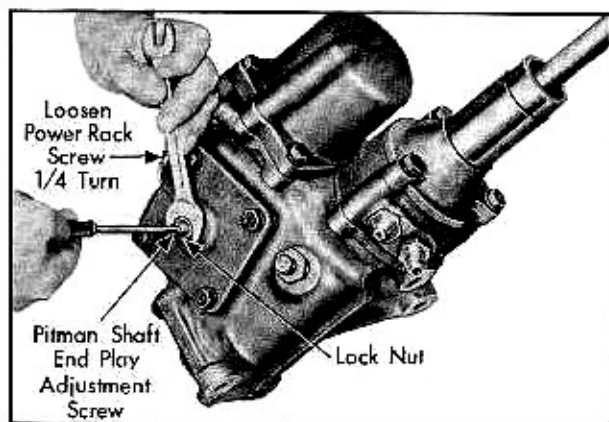

Fig. 7-7 Adjusting Pitman Shaft End Play
1. Adjust pitman shaft end play screw until pull through center is $1/2$ to 1 lb. greater than pull at one full turn off center, Fig. 7-7.